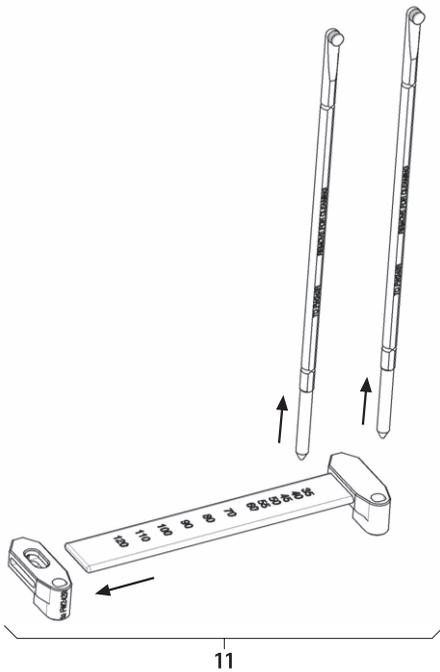

Fig. 7
- ▶ Dismount rod length measuring instrument 11, see Fig. 7.